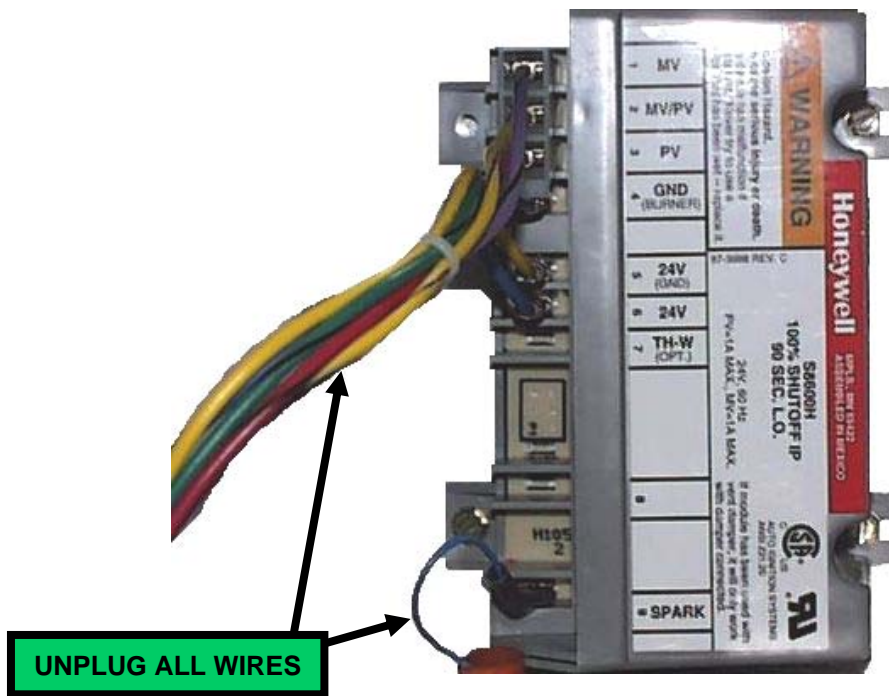

Fig. 11
1. Unplug all wires and connectors from ignition control. (See **Fig. 11.**)